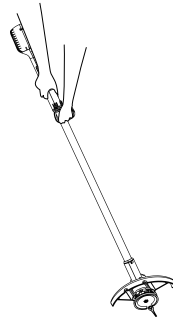

Fig. 11-2
- Using as a edge trimmer (Fig. 11-2)